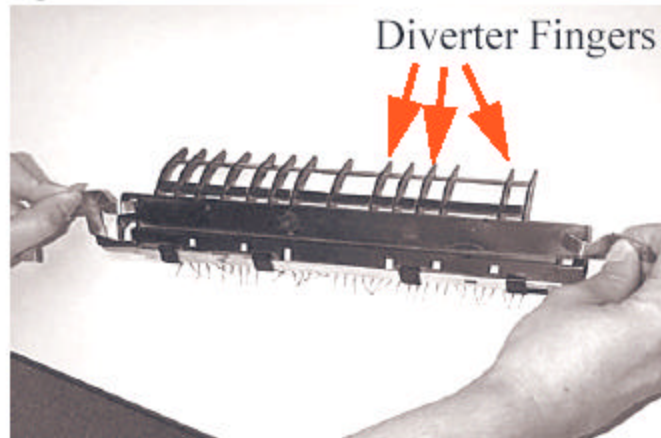

Figure 3. Insert Bracket into the Diverter
2. Insert the left and right bracket into the diverter as shown in Figure 3.